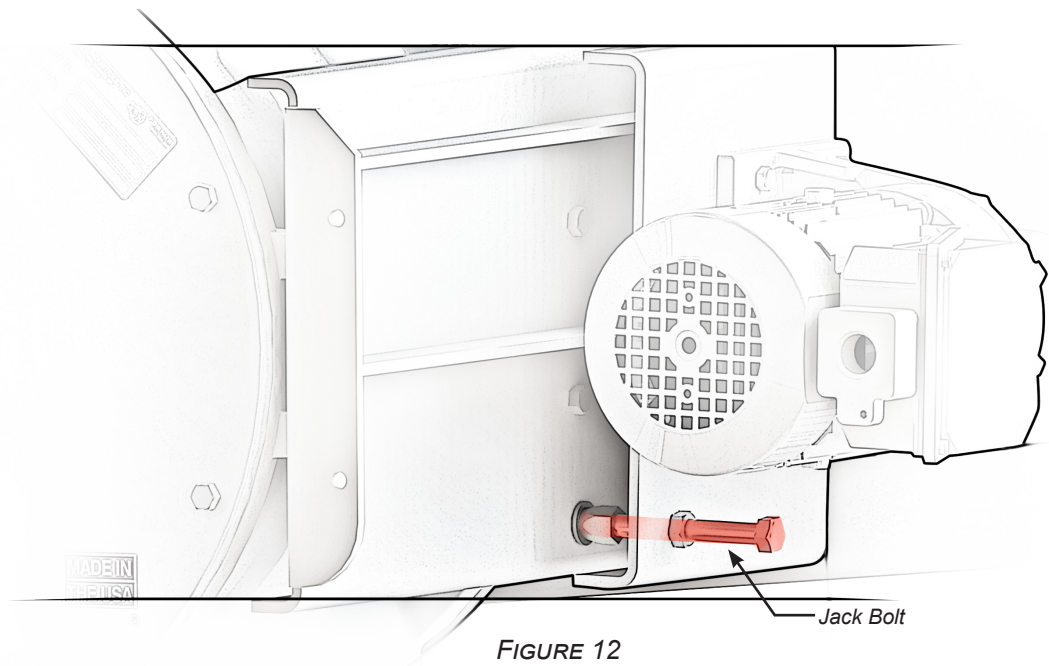

FIGURE 12
- a. Loosen jam nut on jack bolt as shown in motor mount jack bolt location (Figure 12).
- b. Loosen motor mount jack bolt to relieve chain tension and remove chain (Figure 12).